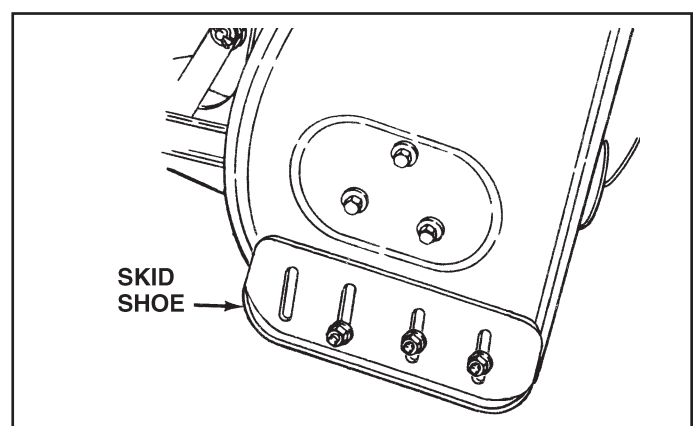

FIGURE 31
- Raise snow thrower off the ground and place a block under each end of the scraper plate. Loosen the six hex nuts securing the skid shoes to the housing. Adjust the skid shoes up or down and retighten the nuts securely. Adjust both skid shoes to the same height to keep the housing and the scraper plate level. See figure 31.